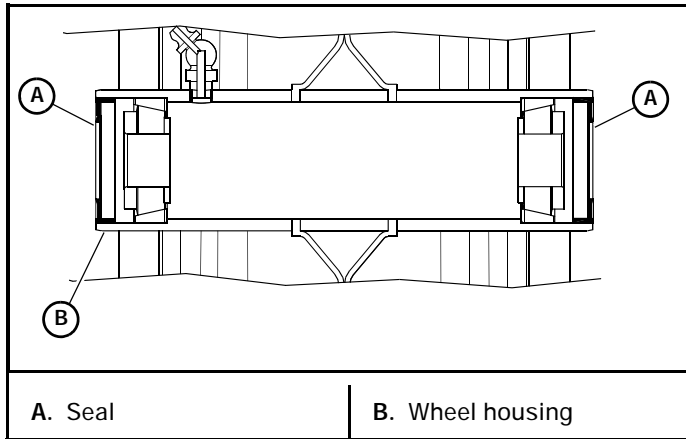

Figure 4-28
3. Insert the new tapered roller bearings into the outer bearing race. Figure 4-28
4. Insert the new seals into the wheel housing. Make sure that the flat side of the seal is flush with the outside edge of the wheel housing. Figure 4-28